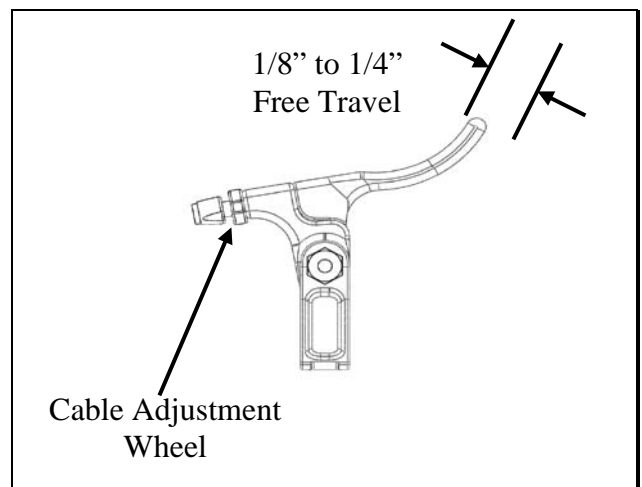

Figure 23 – Trigger Adjustment
4. Adjust the free travel of the Firing Trigger first. Turn the Cable Adjustment Wheel until the firing trigger has approximately 1/8" to 1/4" of free travel before it starts to move the Trigger Actuator (see Figure 23). Turning the wheel counter-clockwise increases the free travel of the trigger, and turning it clockwise decreases the free travel of the trigger.
7. Adjust the Secondary Trigger using the same methods described in Step 4 and Figure 23